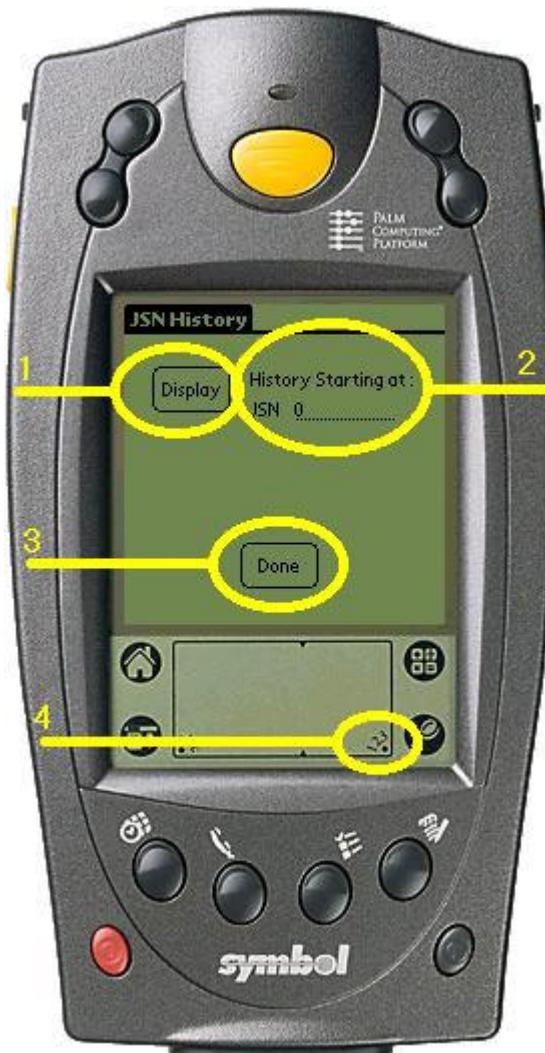

FIGURE 20. JSN HISTORY MENU
The JSN History menu (see figure 20) allows users or supervisors to view the history records. Press the Display button (see item 1, Figure 20) to see a list of all the records. If you know the JSN number you want to see, use the stylus and tap on the 0 in item 2 (figure 20), then tap item 4 (figure 20) and type the JSN number. Once you see your JSN on the line in item 2, tap the Display button (item 1, figure 20). If you are finished in the History menu and want to exit, tap the done button (item 3, figure 20).